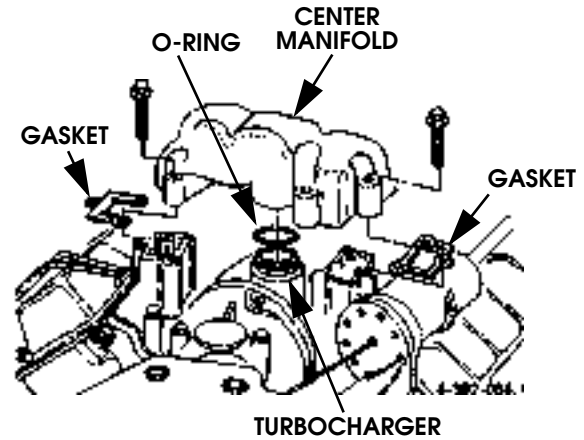

Figure 2-72: Center Manifold
5. Remove center manifold and gaskets (Figure 2-72).